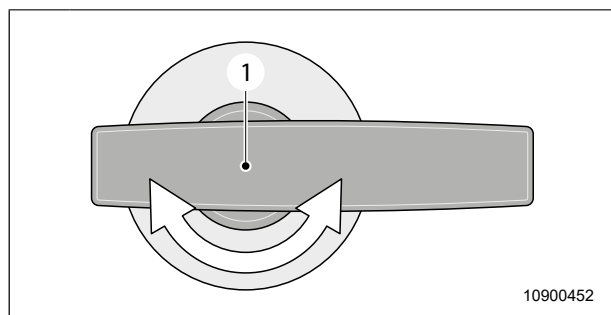

Fig. 50 Drain valve, waste water tank
1. Open the waste water tank drain valve (Fig. 50, item 1) and drain the waste water at a suitable disposal station.
2. Close the drain valve of the waste water tank (Fig. 50, item 1).